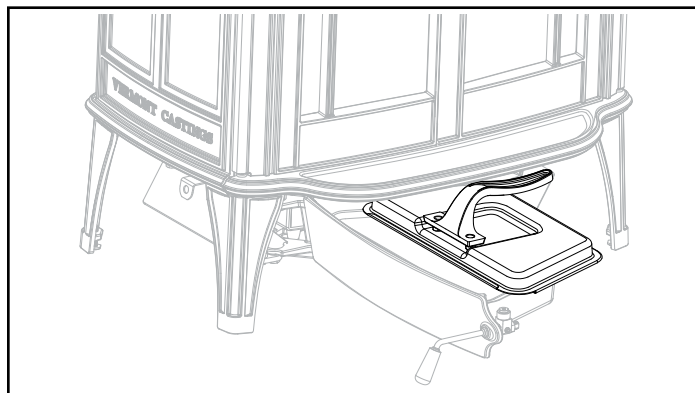

Figure 2.9 - Be sure the cover is securely attached before removing the ash pan.
- Slide the cover onto the pan, making sure it is securely closed, Figure 2.9.